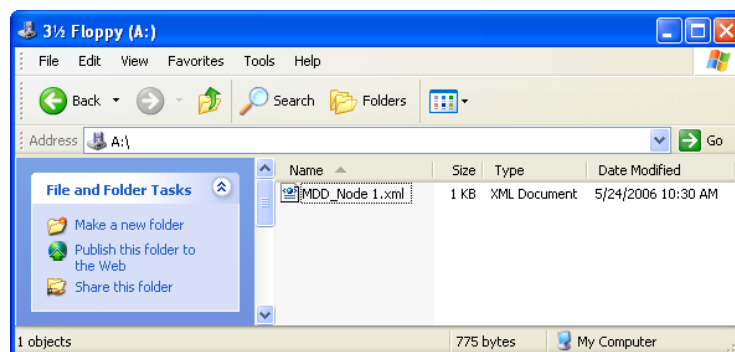

Figure 43. CM9700MDD-EVS XML File
- During the export process, an XML file is created for the CM9700MDD-EVS units on the node (refer to Figure 43); transfer this file, named **MDD_<NodeName>.xml**, to the CM9700MDD-EVS. In a multi-node matrix system, one XML file is created for each node.